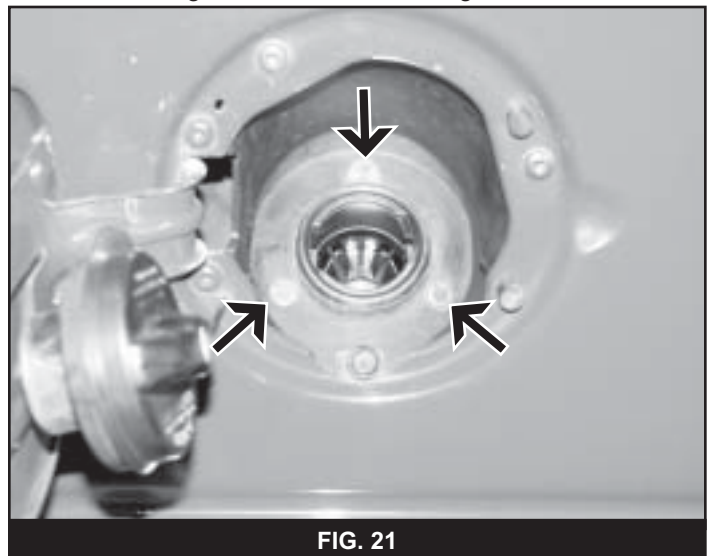

FIG. 21
31. Remove the fuel filler cap to access the three screws mounting the filler neck to the plastic body shroud (Fig 21). Remove the three screws to allow the filler neck to fall through the shroud while lifting the bed.